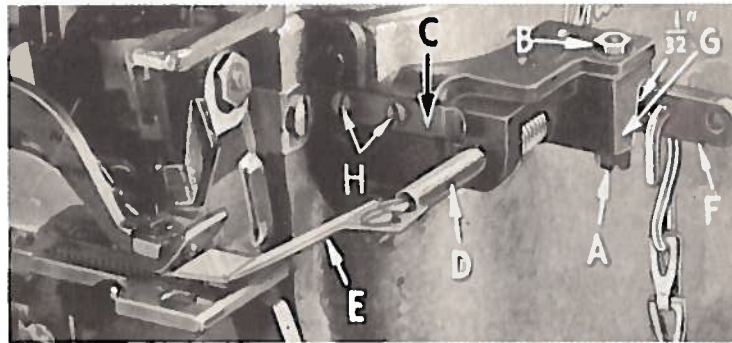

Fig. 28
This machine is equipped with an auxiliary pressure plate assembly (Fig. 28) which operates in conjunction with the presser foot. Check to operation of this assembly as follows:
1. With assembly in operating position, check to be sure latch spring (C, Fig. 28) is in notch of shaft bracket (G) when shaft bracket is up against the front of bracket (C, Fig. 29). If adjustment is necessary loosen screws (H, Fig. 28) and position latch spring.
2. Swing assembly out of operating position and see that it hinges freely on its pivot. Adjustment is made with screw (A, Fig. 28) and Nut (B).
3. Adjust shaft (D) laterally so that the pressure plate (E) locates centrally over the differential feed dog. Loosen screws (A and B, Fig. 29) to do this. Making this adjustment will release the spring tension on the pressure plate. To regain the tension, swing the pressure plate out and turn the shaft (D, Fig. 28) in either direction about 180° from operating position and tighten screw (B, Fig. 29).
4. With the differential feed dog down below the surface of the throat plate, and the pressure plate resting on the throat plate with the maximum pressure the spring will allow, there should be about $\frac{1}{32}$ inch clearance between the operating lever (F, Fig. 28) and the hinge block (G). To make this adjustment loosen screw (A, Fig. 29) and move lever to desired position.
8. A chain is provided for raising the auxiliary pressure plate in conjunction with the presser foot. Couple this chain from the operating lever (F, Fig. 28) to the knee press rod that is part of the knee press assembly used to lift the presser foot. The presser foot should be raised before the pressure plate and the chain is normally attached to the pressure plate operating lever at the side hole.